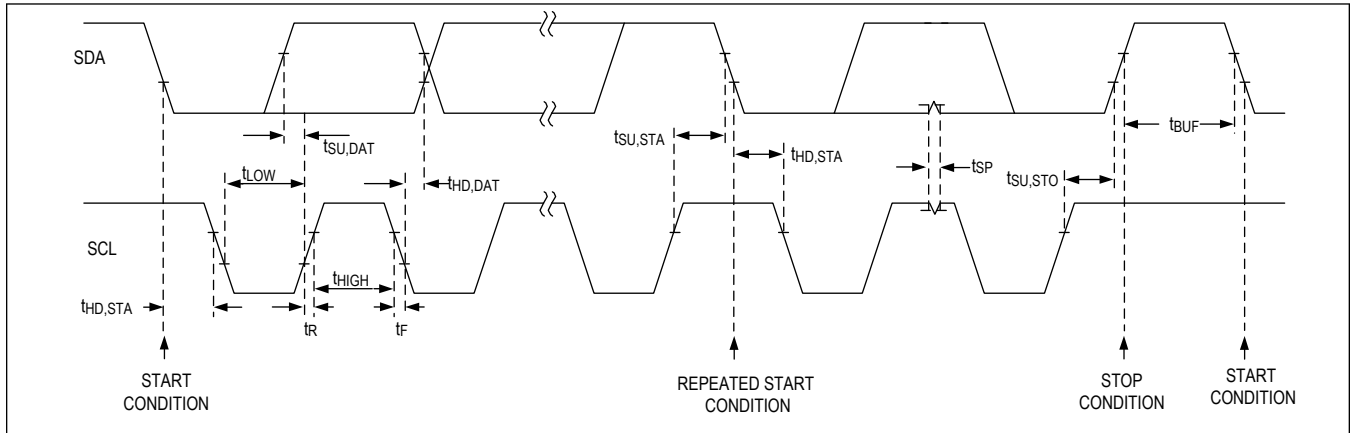

Figure 21. I²C Interface Timing Diagram
The IC features an I²C/SMBus™-compatible, 2-wire serial interface consisting of a serial data line (SDA) and a serial clock line (SCL). SDA and SCL facilitate communication between the IC and the master at clock rates up to 1MHz. Figure 21 shows the 2-wire interface timing diagram. The master generates SCL and initiates a data transfer on the bus. The master device writes data to the IC by transmitting the proper slave address followed by two register address bytes (most significant byte first) and then the data word. Each transmit sequence is framed by a START (S) or REPEATED START (Sr) condition and a STOP (P) condition. Each word transmitted to the IC is 8 bits long and is followed by an acknowledge clock pulse. A master reading data from the IC transmits the proper slave address followed by a series of nine SCL